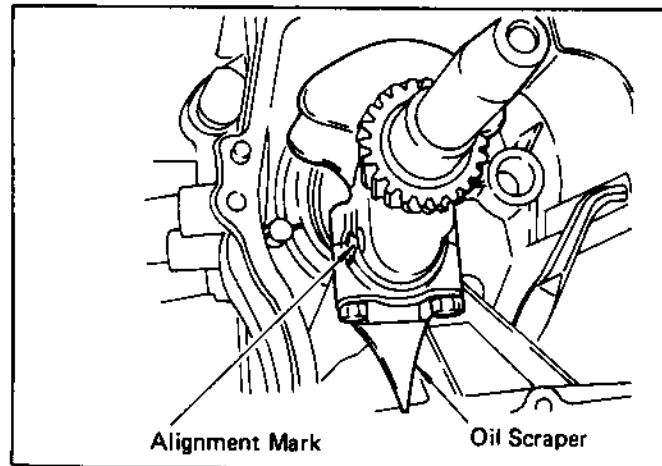

Fig. 31
- 3) Oil scraper is to be set on the side of magneto. (See Fig. 31.)